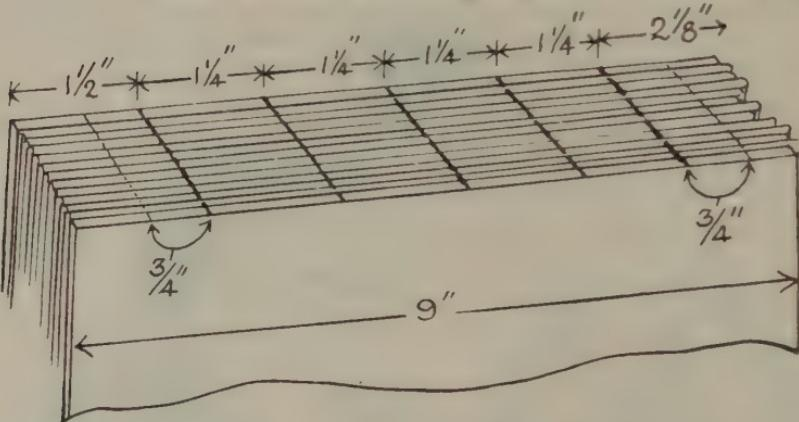

FIG. 168—BACK OF BOOK “MARKED-UP” PROPERLY FOR
4. Measure the length of the back of the book, and, assuming it is 9" long, mark off with soft black pencil firm black lines as in Fig. 168. Use your T-square in order that lines may be truly at right angles with boards.